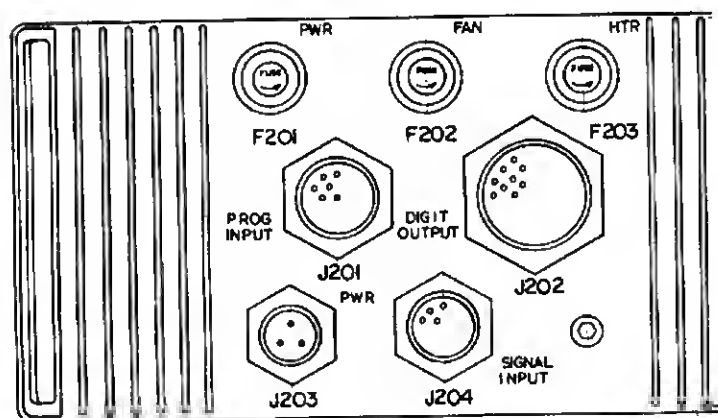

Figure 3.1. Rear Panel
3.8. The digital outputs of each accessory are delivered through connector J202; program inputs are made through J201. The connectors are mounted on the rear panel of the DVM (see Figure 3.1). Specific pin assignments of the connectors are listed on the pin assignments charts, Table 3.3 (page 3-6) and Table 3.6 (page 3-10).